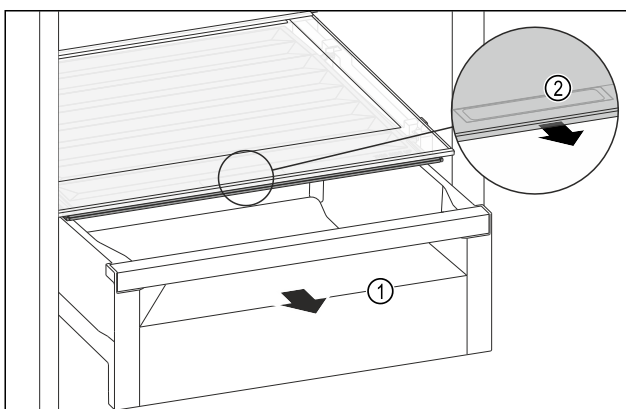

Fig. 137
- ▶ Pull out the drawer Fig. 137 (1).
- ▶ Grasp the recessed grip Fig. 137 (2) on the compartment lid and pull the compartment lid forwards at the same time.